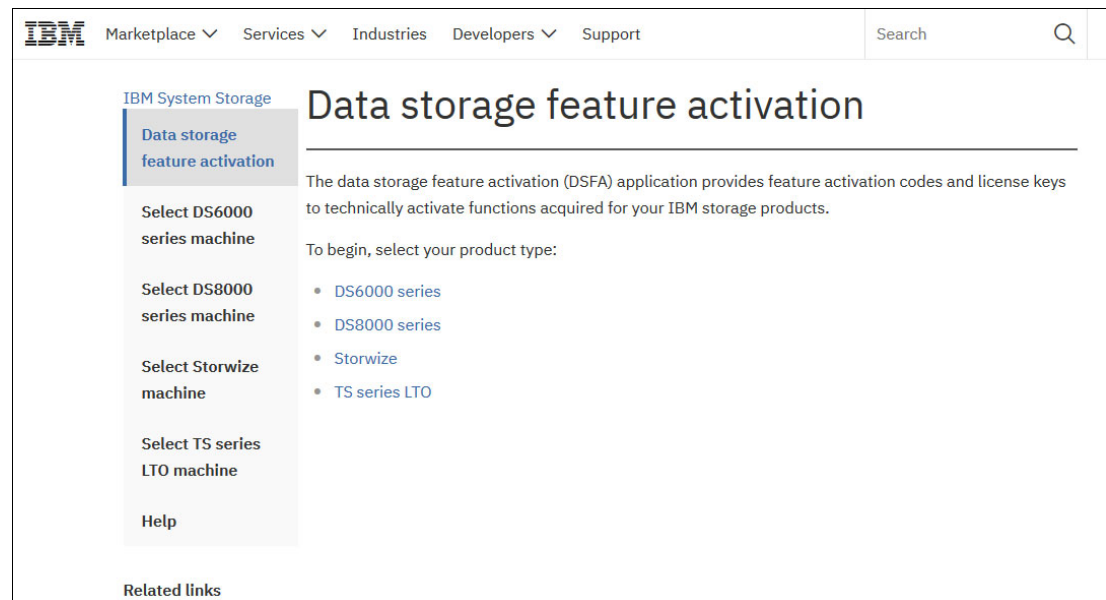

Figure 9-9 IBM DSFA website
1. As shown in Figure 9-9, connect to the DSFA website at the following address: